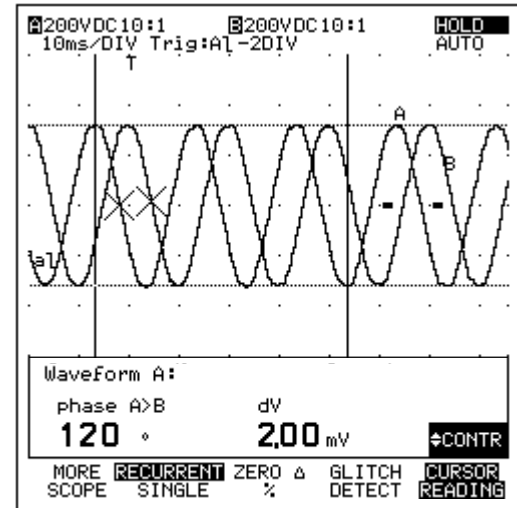

Figure 7-12. Phase Measurement (with Markers)
- ① Measure the two sine wave waveforms as explained in the previous example.
- ②  Return to the main menu.
- ③  Set the test tool to Scope mode.
- ④  Freeze the display; **HOLD** appears in the upper right display.
- ⑤    Activate the Cursor readings.
- ⑥    Go to page 2 within the More Scope window.
⑦  Choose ADD MAIN READING.
⑧  Open the list box.
⑨  : phase A>B  .
⑩  Close the window.
⑪   Position the two cursors on the waveforms; see Figure 7-12.
The display shows the phase between the waveforms on INPUT A and INPUT B: "phase A>B -120°" (see Figure 7-12).